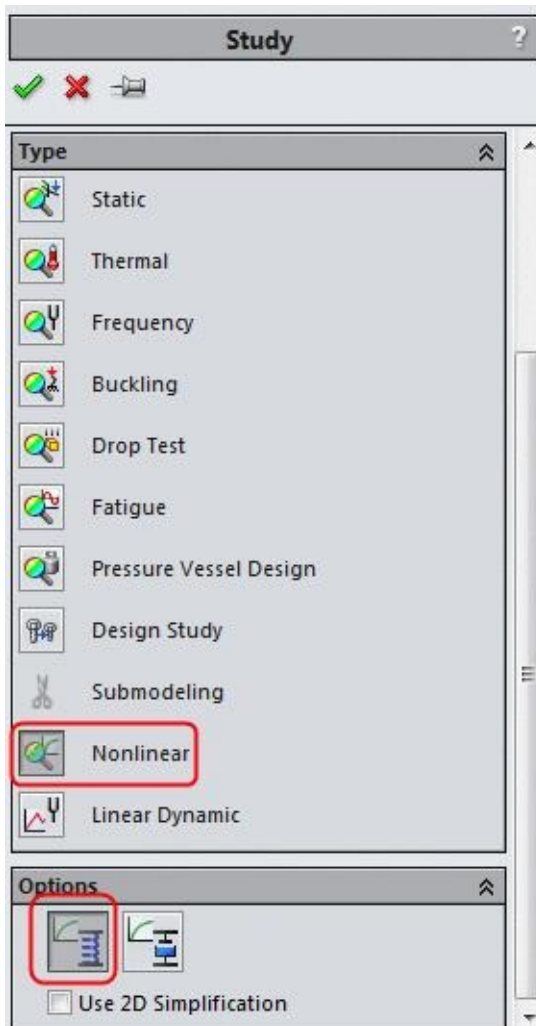

Figure-1. Study PropertyManager
- Click on the **Nonlinear** button and then on the **Static** button from the **Options** rollout; refer to Figure-1.